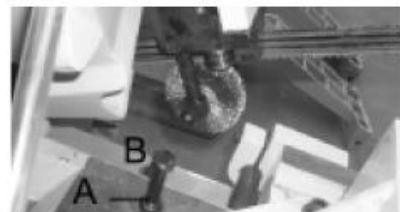

Fig.3
The downward travel of the saw arm should be adjusted so when the saw arm is in the extreme downward position, the teeth of the blade are 1/16" below the table surface. If an adjustment is necessary, loosen lock nut (A) Fig. 3. And turn stop screw (B) in or out until the correct adjustment is made. Then tighten lock nut (A).